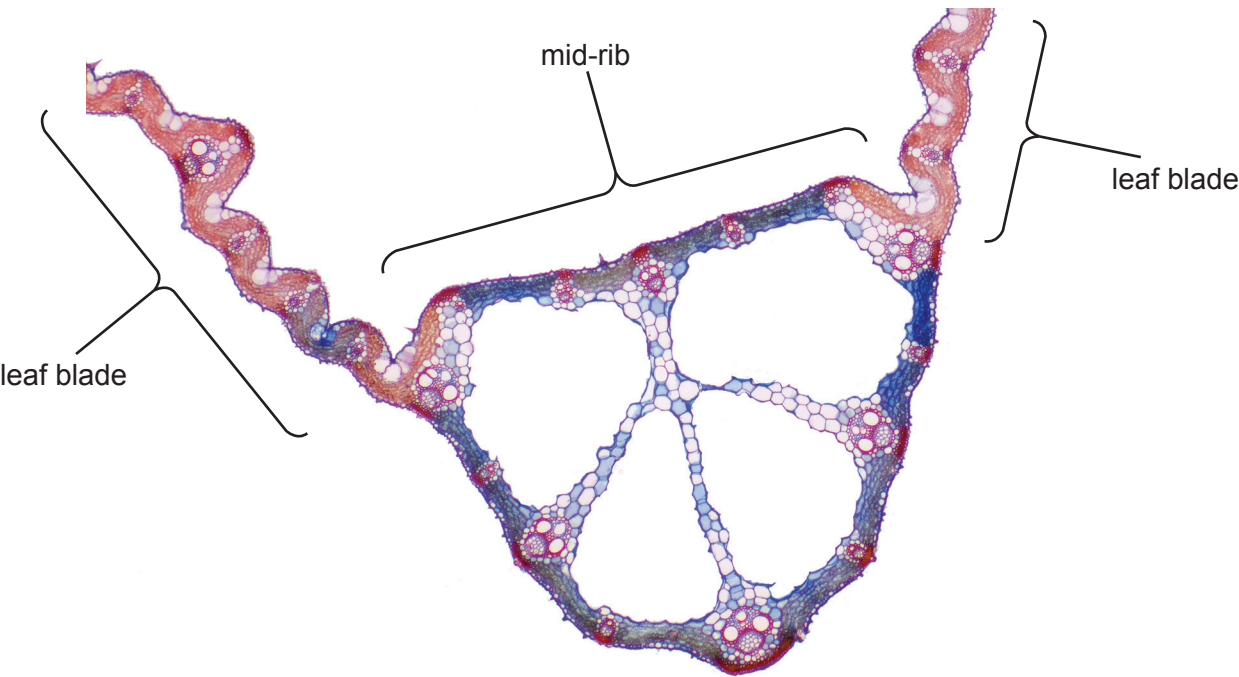
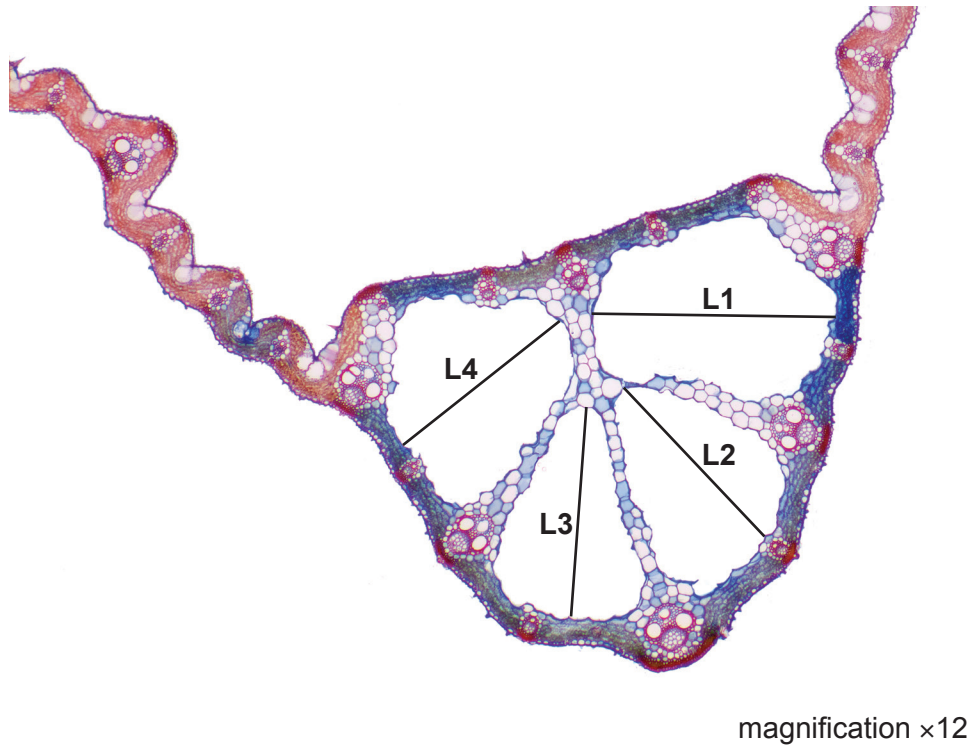

Fig. 2.1
Fig. 2.2
(b) Fig. 2.1 is a photomicrograph of a transverse section through a leaf of a different species of plant.
(i) Identify **three** observable features, other than colour, that are different between the leaf in Fig. 2.1 and the leaf on **P1**.
- (ii) The leaf section shown in Fig. 2.1 is from a plant that is adapted to live in water.
State **one** feature visible in Fig. 2.1 that adapts the plant to live in water.
(c) Fig. 2.2 is the same photomicrograph of a transverse section of a leaf as is shown in Fig. 2.1.
- (i) In Fig. 2.2, the lines **L1**, **L2**, **L3** and **L4** are drawn across the lengths of four air spaces.
- (ii) Calculate the mean **actual** length of these four air spaces in micrometres (μm), using your answer to (c)(i) and the magnification in Fig. 2.2.